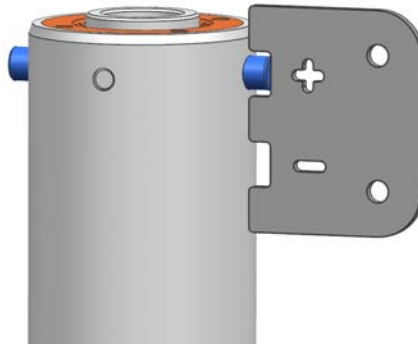

Figure 5-8: Pin Depth Gauge
5. Verify the correct pin depth with the pin depth gauge. The pin should extend 0.250 inch to 0.255 inch beyond the outside surface of the chrome tube. Place the pin depth gauge over the pin aligned with the chrome tube centered on the pin. Refer to **Figure 5-8**. The pin should be shorter than the “+” gauge but not shorter than the “-” gauge. If a gap is visible between the “-” gauge and the pin, the pin has been inserted too far. If a gap is visible between the feet of the gauge and the chrome tube with the pin in the “+” gauge, the pin has not been inserted far enough.